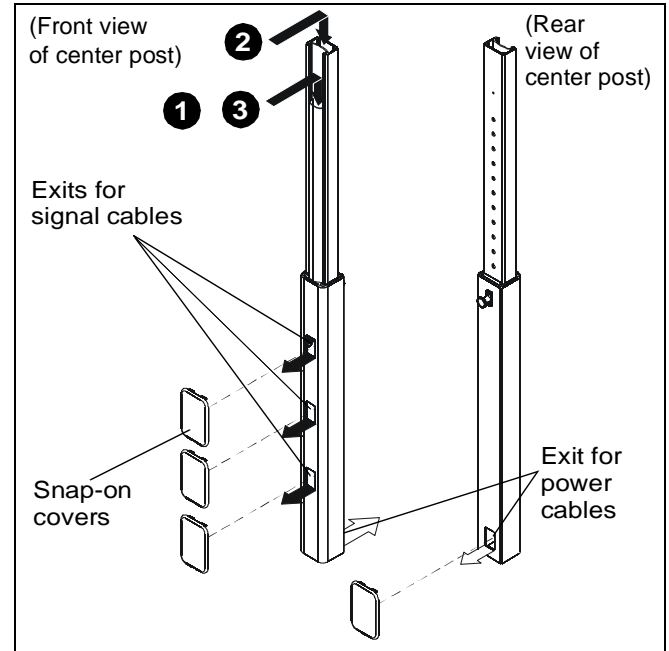

Figure 13
1. Signal cables can be run down the front flap of the center post and out the front of the post at any of the openings. (See Figure 13)
2. The display power cord can be run through the top and down through the post to exit out the back. (See Figure 13)
3. Any accessory power cords can be run through the front and down through the post to exit out the back. (See Figure 13)
4. Install the snap-on covers to any opening that is not being used. (See Figure 13)